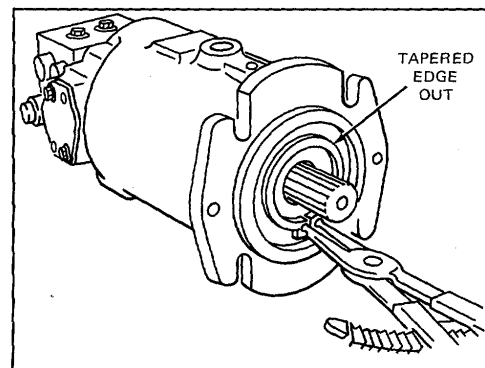

Figure 24.
8. For ease of installation start snapping in groove with side opposite snapping holes (refer to Fig. 24).